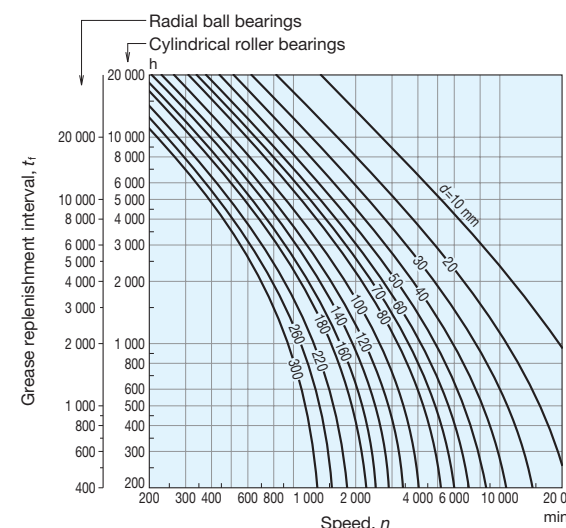

Fig. 23 Grease Replenishment Intervals for Radial Ball Bearings, Cylindrical Roller Bearings
Assuming that the greases are used under normal operating conditions, refer to Figs. 23 and 24 on page 16 concerning replacement time intervals.
**Figs. 23 and 24** are the guidelines of replenishment time interval for the condition of high-quality lithium soap-mineral oil grease, bearing temperature of 70 °C, and normal load ( $P/C=0.1$ ). If the bearing temperature exceeds 70 °C, the replenishment time interval must be reduced by half for every 15 °C temperature rise of the bearings. Also, the replenishment time interval depends on the magnitude of the bearing load, and it should be used by multiplying Load factor shown in table 9.
(For example, high-quality lithium soap-synthetic oil grease may extend about two times of replenishing time interval shown in **Figs. 23 and 24**.)
The lubrication performance of grease declines by the emulsification or the deterioration due to intrusion of foreign matter or water. Therefore, if the bearing is used in such harsh conditions, it is necessary to shorten the replenishment time interval in **Figs. 23 and 24** by a half to a tenth.